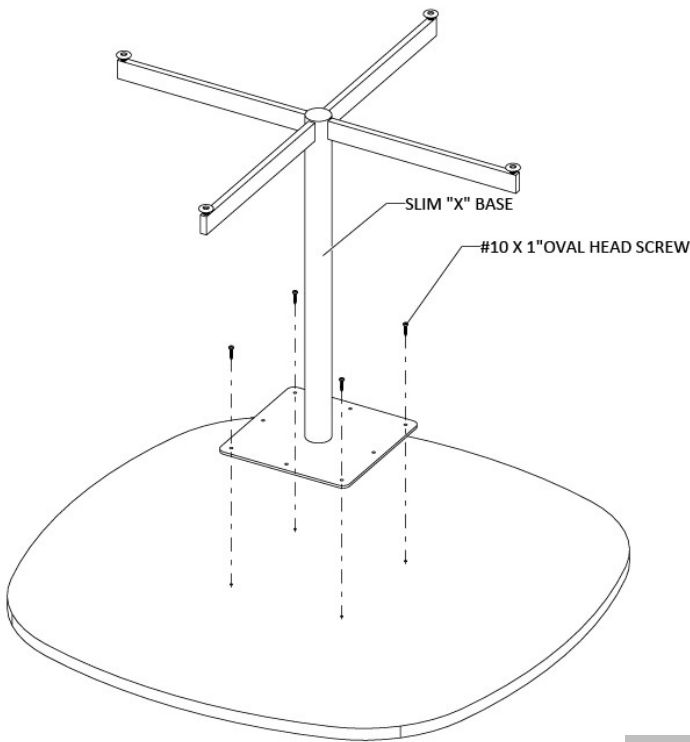

Figure 2
- Position the slim “X” base using the pre-drilled positioning holes and attach it to squircle table top using #10 X 1” Oval Head Screws, (Figure 2).